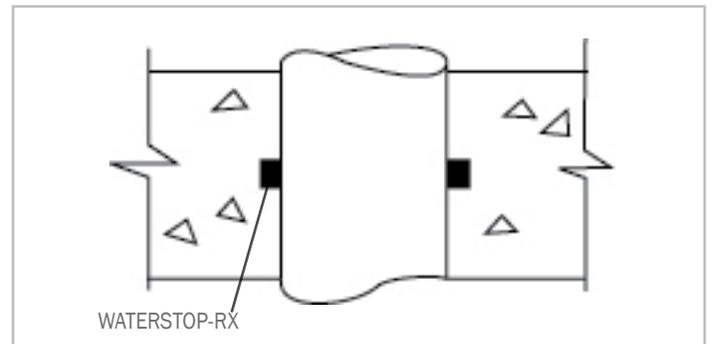

Figure 4.2 - Single pipe penetration
**Single Pipe Penetration:** Install WATERSTOP-RX around outer diameter of the pipe (see Figure 4.2). WATERSTOP-RX 102 shall be installed around all polyvinyl chloride (PVC) pipes.